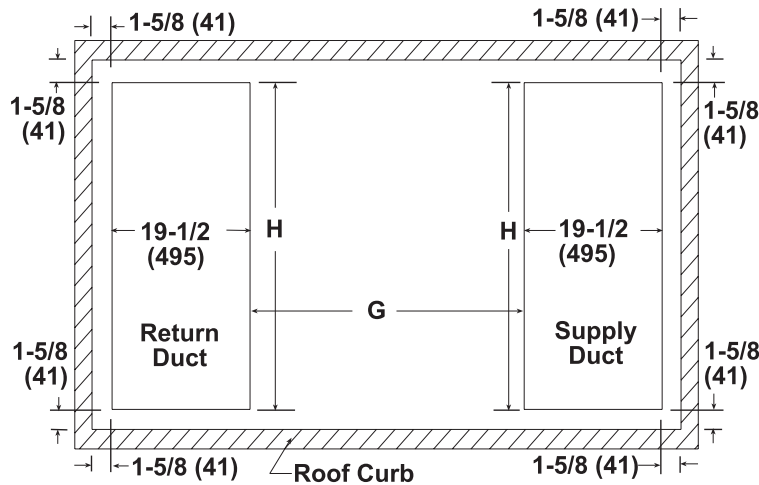

Figure 16. Bottom Duct Opening Dimensions—Model RPBL (Refer to Table 15)
The blower section and optional downturn plenum have duct flanges for connection to return air and supply air ducts. Duct opening sizes and curb spacing are shown in Figure 16.
**NOTE:** Figure 16 shows dimensions for currently-manufactured curbs that are available from the system manufacturer. The measurement from the duct openings to inside edge of roof curb is 1-5/8 inches (41 mm). Duct openings should be 1 inch (25 mm) larger than the duct size for installation clearance.